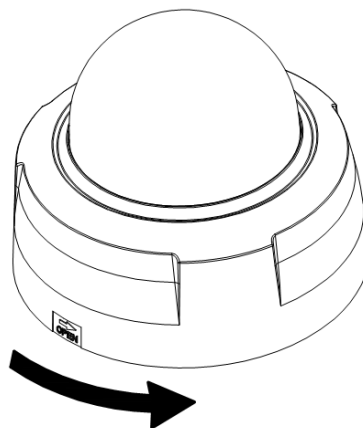

Figure 3- 4 General installation 2
- b) For non vandal-proof series, rotate the dome camera enclosure counterclockwise as in Figure 3- 4 until you can remove it.